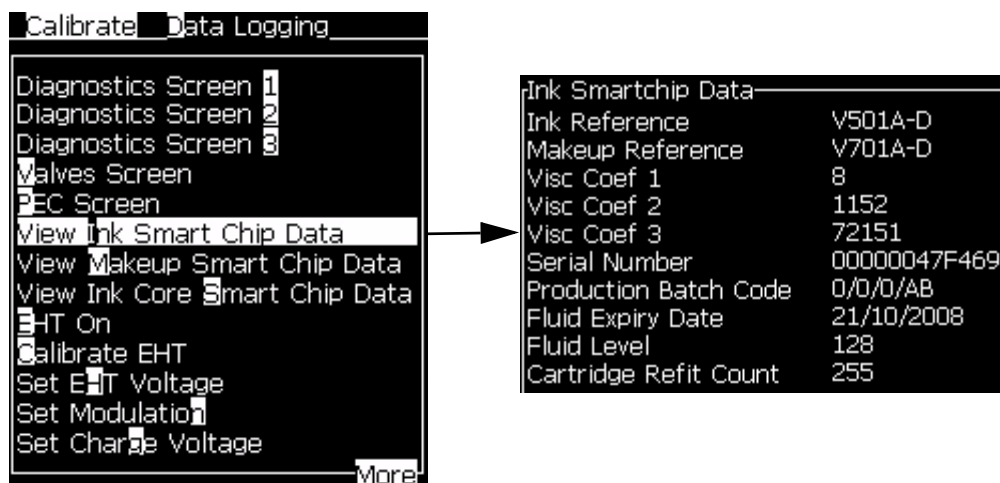

Figure 4-16: View Ink Smart Chip Data Option
- 26 Verify and record the ink reference and expiration date. Access *Calibrate > View Ink Smart Chip Data* menu (see Figure 4-16 on page 4-14).